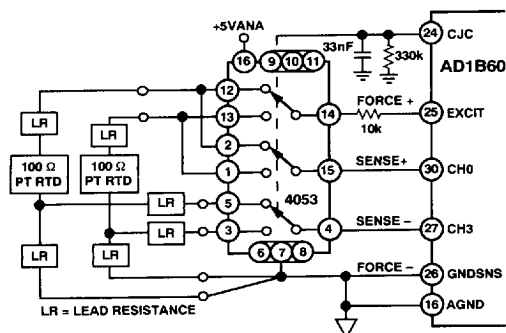

Figure 11. Typical Multiplexed 3-Wire RTD Connection
By placing a 330 k Ω resistor to AGND from this pin, a logic voltage can be generated (see Figure 11). The level can be switched from high (about +4 V) to low (AGND) by changing the CJC mode from thermistor (00) to any other, using the WR_RAM_PARS command.
Two RTDs can be multiplexed using the CJC pin as a control line to select between them, as described in the previous subsection. Figures 11 and 12 show multiplexed 3-wire and 4-wire RTDs.